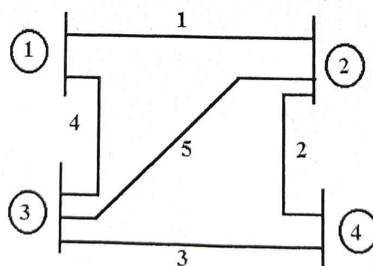

Figure 2
- c) Describe Primitive network with example? CO1 (04)
2. a) Explain how to form Y Bus by using singular transformation method. CO1 (06)
b) Determine the Y Bus for 4 bus transmission line system, the bus diagram of which is shown below Figure 2 and the impedances and line charging admittances are tabulated. CO1 (10)